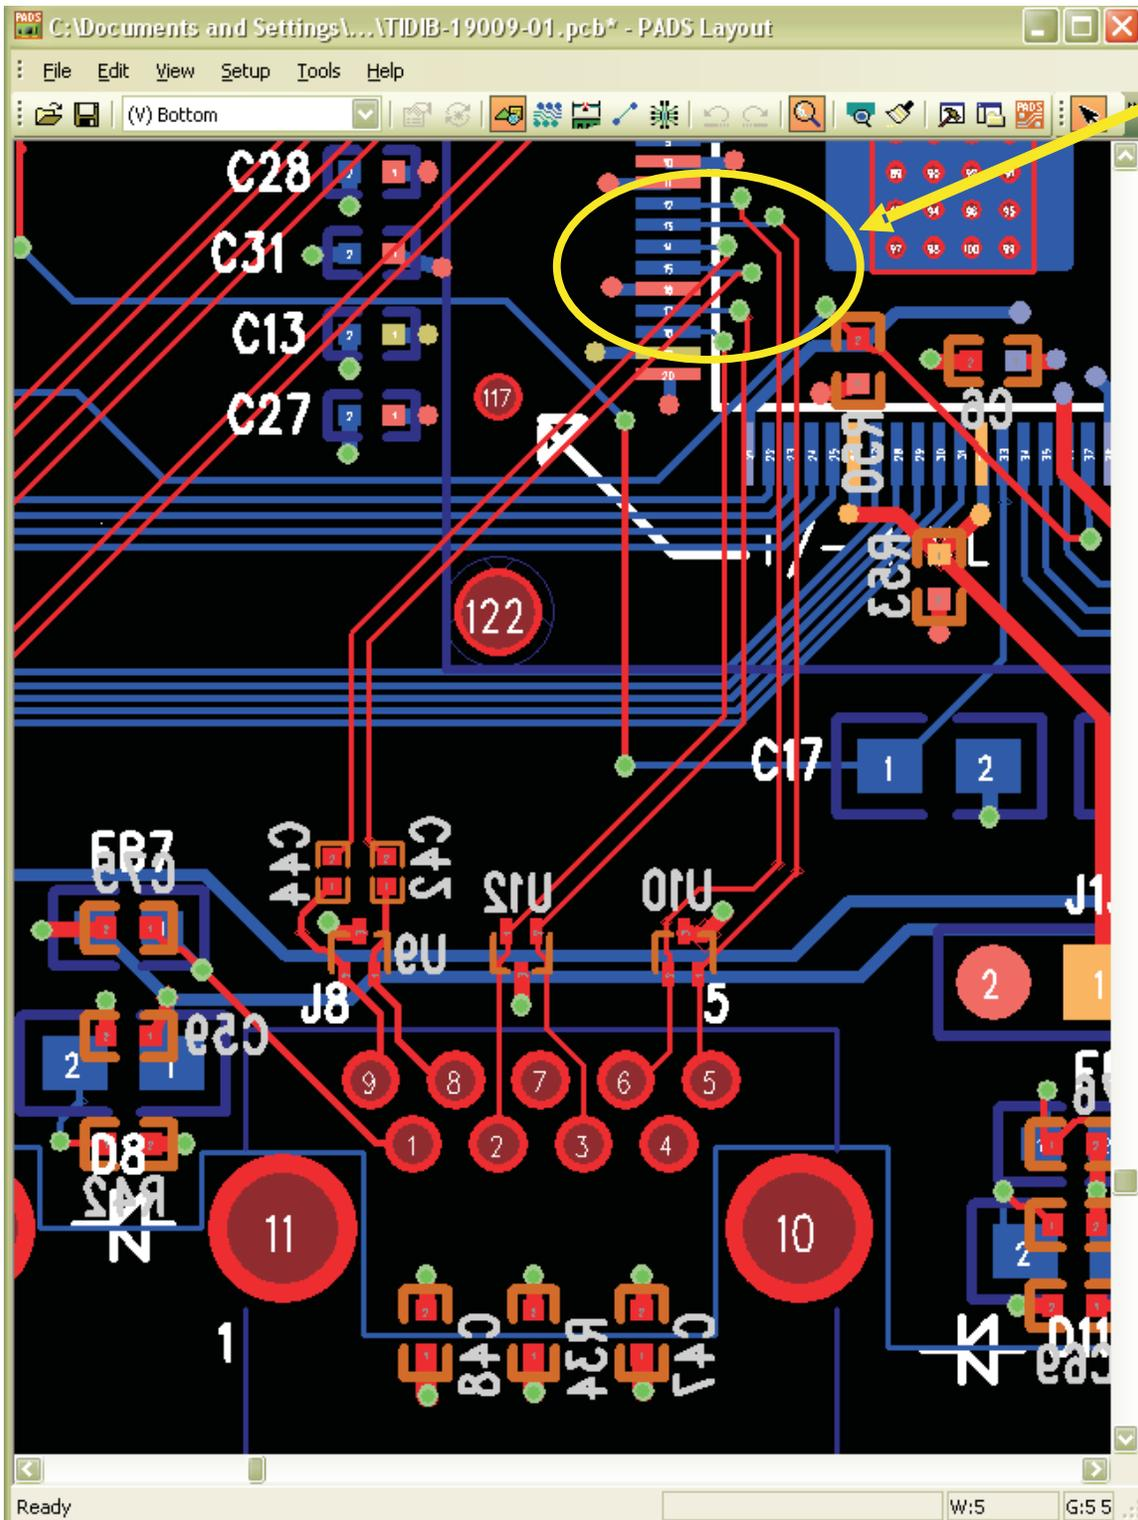

Figure 1. Using Via Placement to Cross the SSTX and SSRX Pairs
10. In order to route the differential pairs of the TUSB8040 to the USB connectors, it is necessary on the downstream ports to cross the SSTX pair and the SSRX pair. To avoid using multiple sets of vias, the vias were carefully placed on the TUSB8040 REV B EVM so that the crossover was inherent in the board design and then both pairs of signals (along with the USB 2.0 differential pair) were routed on the bottom layer (see Figure 1).